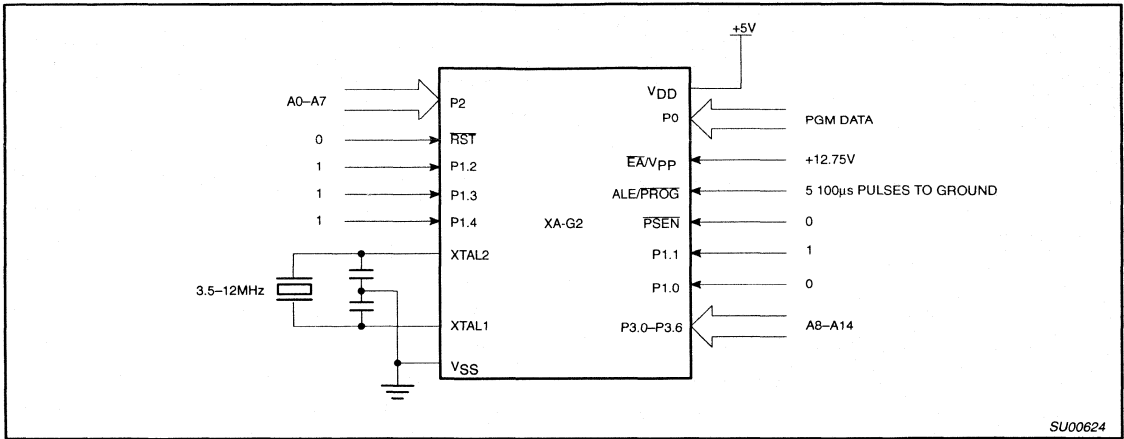
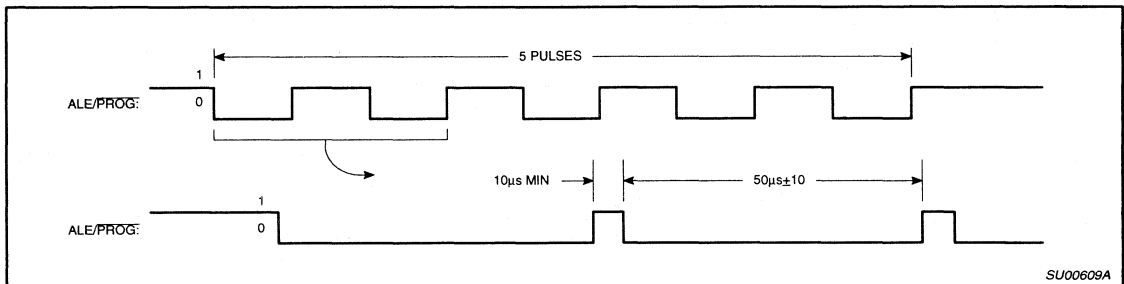
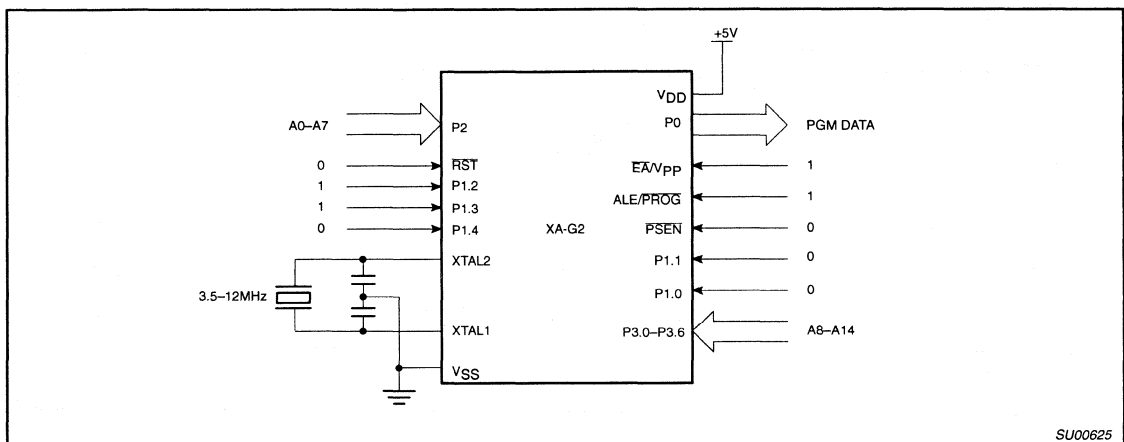

Figure 24. Programming Configuration for XA-G2
Figure 25. PROG Waveform
Figure 26. Program Verification for XA-G2
Table 5 shows the logic levels for reading the signature byte, and for programming the code memory and the security bits. The circuit configuration and waveforms for quick-pulse programming are shown in Figure 24. Figure 26 shows the circuit configuration for normal code memory verification.
The setup for microcontroller quick-pulse programming is shown in Figure 24. Note that the XA-G2 is running with a 3.5 to 12MHz oscillator. The reason the oscillator needs to be running is that the device is executing internal address and program data transfers.
The address of the EPROM location to be programmed is applied to ports 2 and 3, as shown in Figure 24. The code byte to be programmed into that location is applied to port 0. RST, PSEN and pins of port 1 specified in Table 5 are held at the 'Program Code Data' levels indicated in Table 5. The ALE/P $\overline{R}O\overline{G}$ is pulsed low 5 times as shown in Figure 25.
If security bits 2 and 3 have not been programmed, the on-chip program memory can be read out for program verification. The address of the program memory locations to be read is applied to ports 2 and 3 as shown in Figure 26. The other pins are held at the 'Verify Code Data' levels indicated in Table 5. The contents of the address location will be emitted on port 0.
- * FOR PROGRAMMING CONDITIONS SEE FIGURE 25.
- FOR VERIFICATION CONDITIONS SEE FIGURE 26.